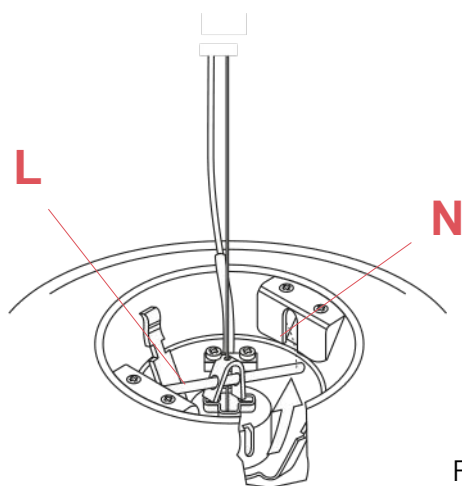

Fig.3
Hook the rod (L) into the housing (N), until it locks "clicks – in". (fig.3)